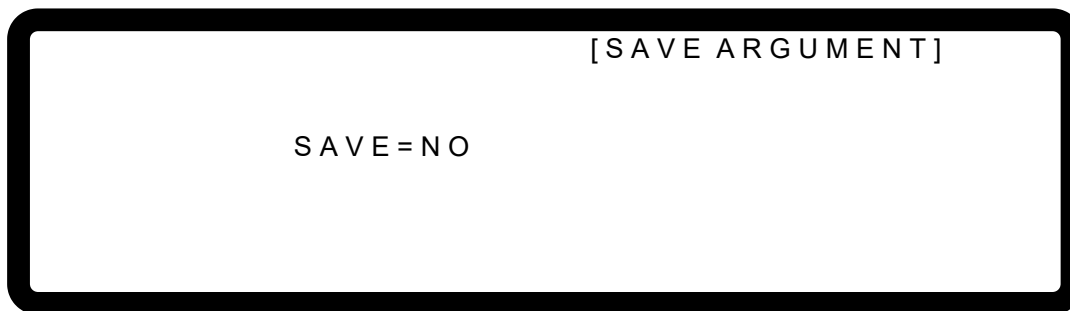

Figure 3-101
9. Now the voltage calibration is done. To save the calibration data, press “SAVE” will prompt a confirmation page as Figure 3-101 shows. Press “1” or “Rotary” (⊙) to set SAVE=YES and press “ENTER” to save it. If there is no need to save it, press “EXIT” to return to the Calibration screen.